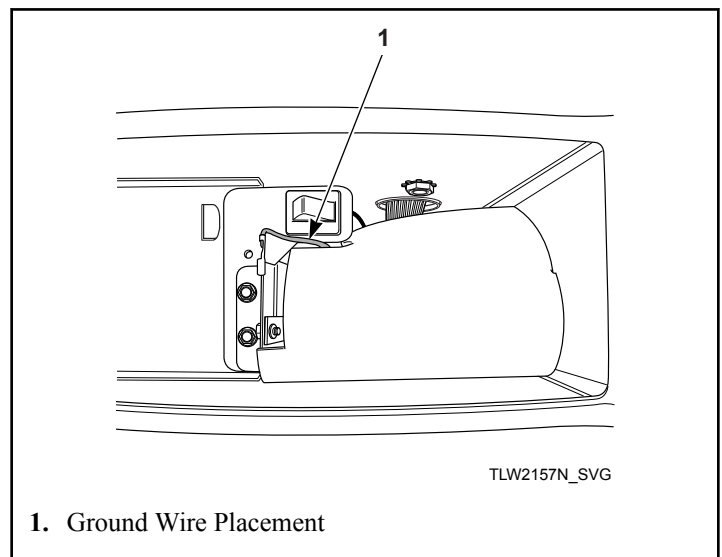

Figure 28
7. Before installing coin slide and extension, make sure ground wire is tucked under control shield to provide clearance for coin slide. Refer to *Figure 28*.